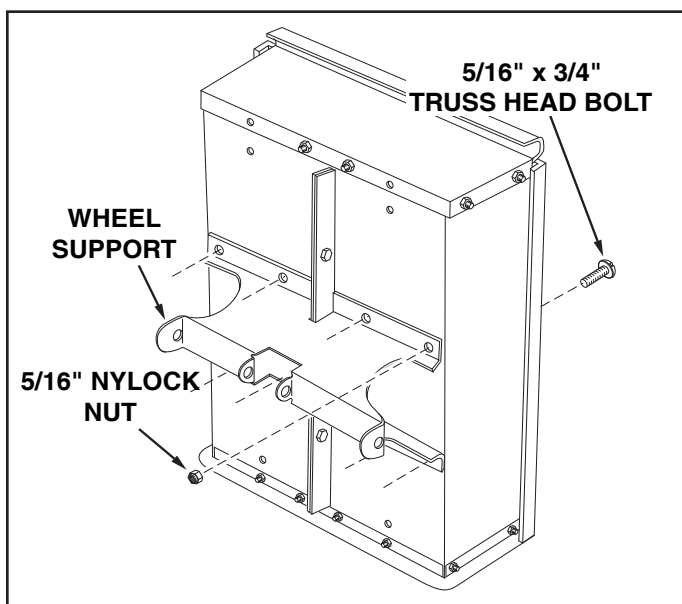

FIGURE 6
10. Assemble the wheel support to the cart using eight $5/16" \times 3/4"$ truss head bolts and $5/16"$ nylock nuts as shown in figure 6. Heads of bolts go on the inside of the cart. **Tighten**.